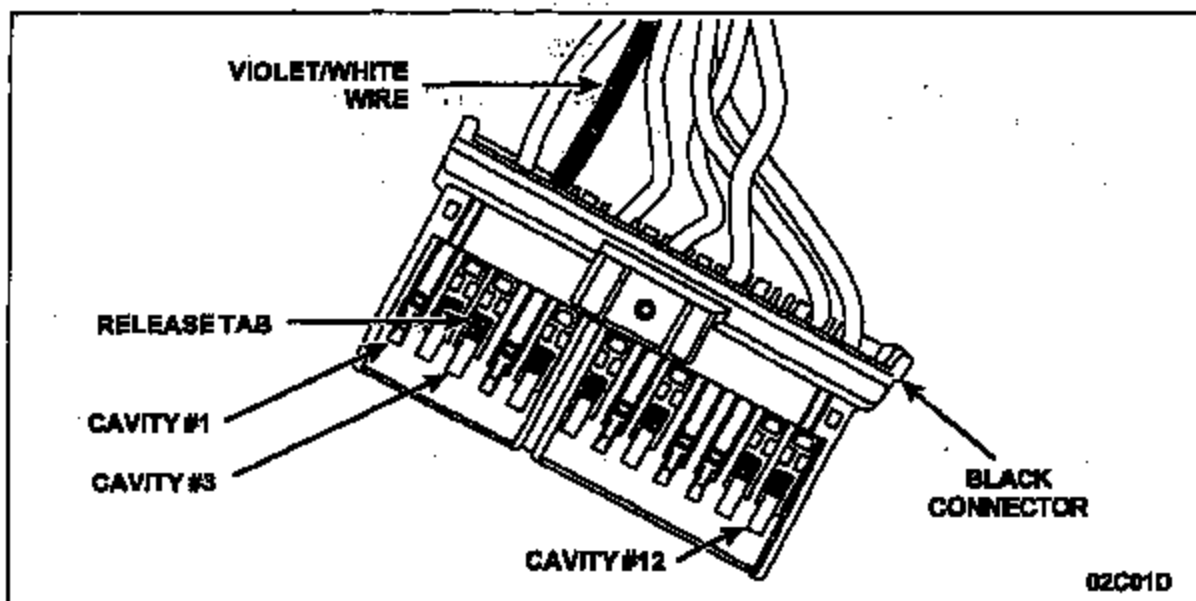

FIGURE 4
5. Remove the VIOLET/WHITE wire from cavity No. 3 by pushing the small release tab and pulling the wire out of the cavity. Then, close the locking clamp. See Figure 4.